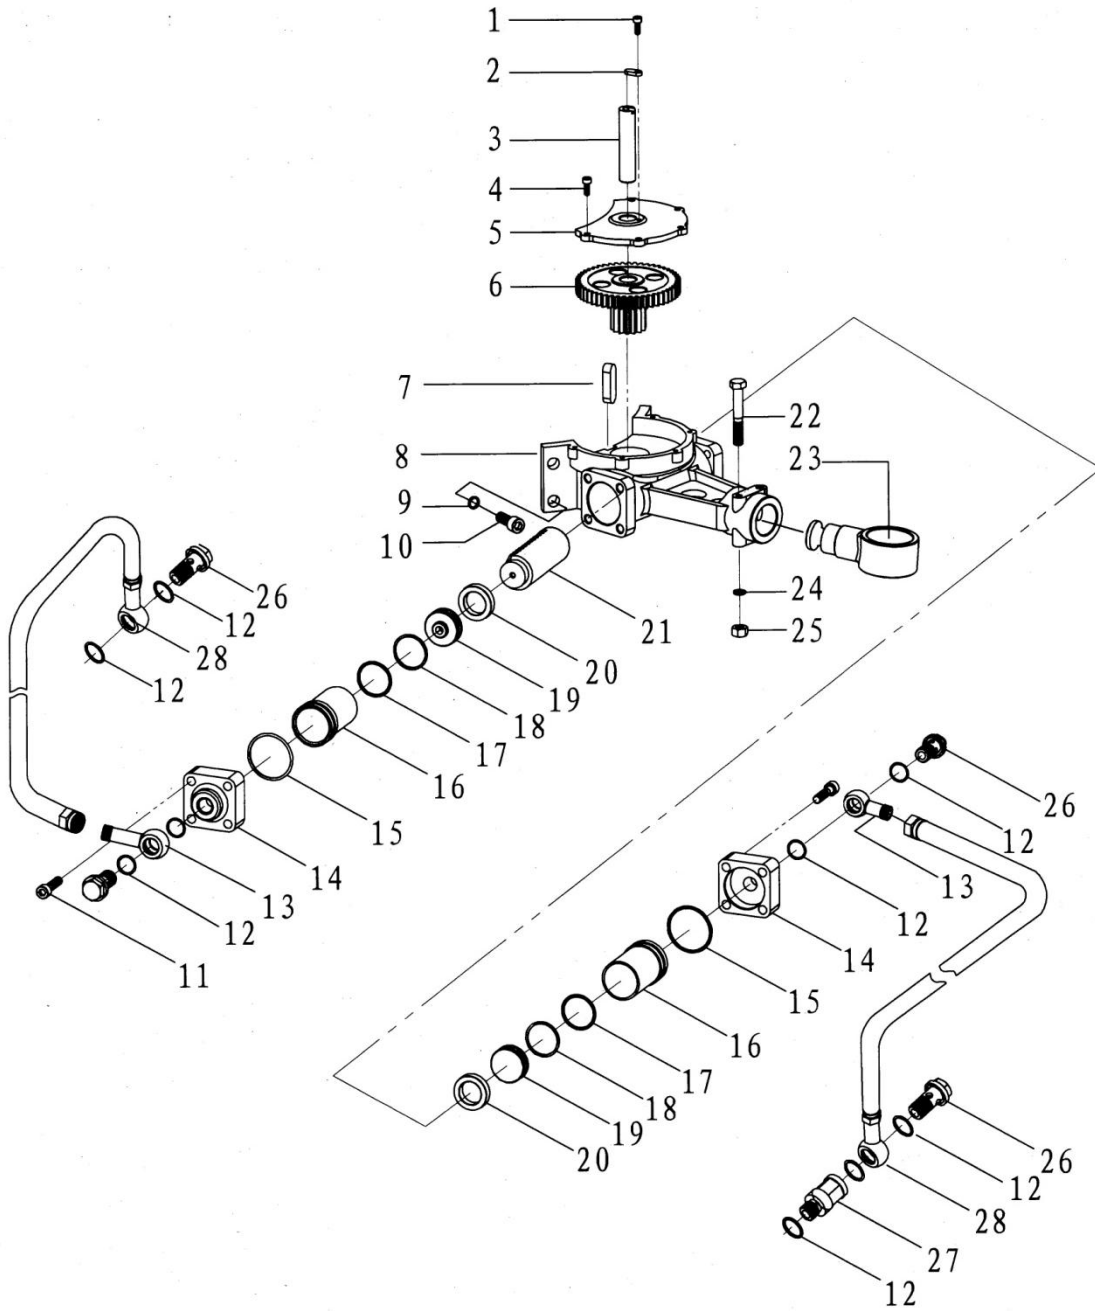

Fig 15
9.11 Backup tong tail and parts list (Fig 15, Table 11)